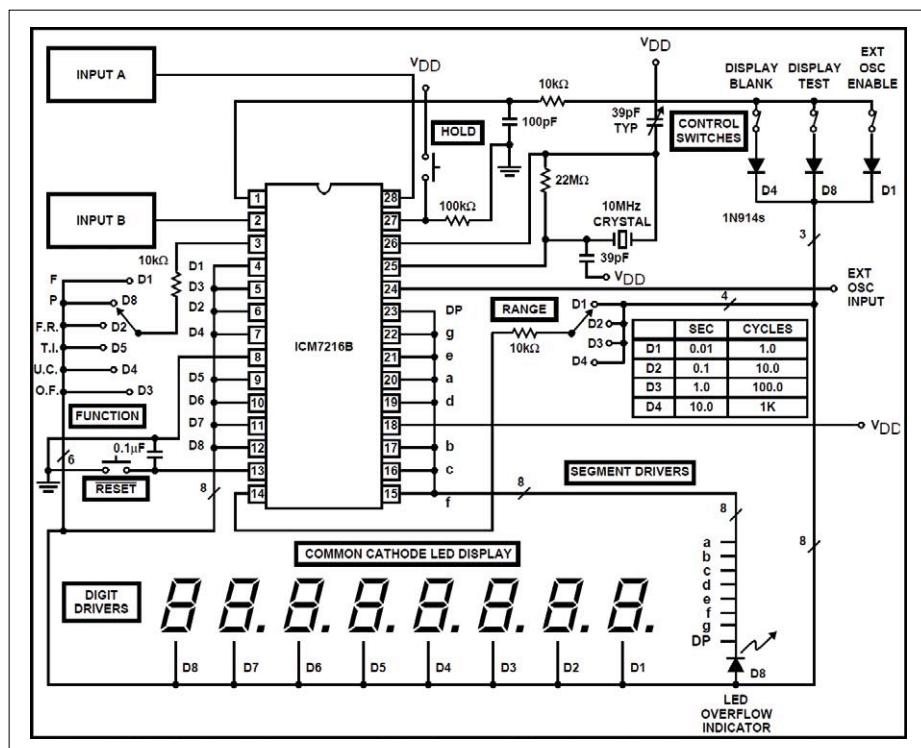

Figure 2. ICM7216 10-MHz Counter/Timer block diagram. Source: Intersil datasheet.
The ICM7216 comes in four variants — A, B, C and D. The A and B versions are full featured 8-digit frequency counters which are also able to measure period, frequency ratio, units and time count. The C and D versions are basic frequency counters only. The A and C versions drive Common Anode (CA) 7-segment displays, the B and D versions drive Common Cathode (CC) displays. Their frequency range is DC to 10 MHz. The basic circuit for an ICM7216B counter is shown in **Figure 2**.